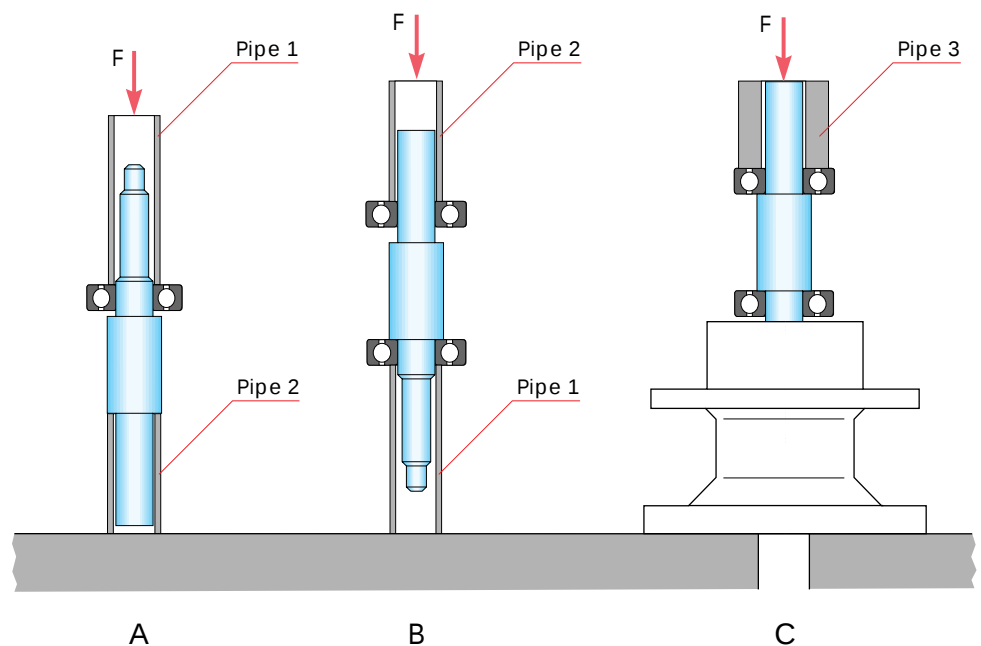

Fig 19-3
- 7 Remove the locking screws (26)** and mount three hexagon screws into the holes. Tighten the screws until the bearings come loose from the housing. Remove the shaft and bearings.
- 8 Check the seal (12)** and the bearings for wear and damage, see pos. d) below.
- 10 Press the new bearing (13)** by its inner ring with a suitable pipe.
- 12 Turn the shaft** according to Fig 19-3.
- 14 Press the bearing (15)** by its inner ring with a suitable pipe. See Fig 19-3.
- 15 Turn the bearing housing** according to Fig 19-3 and oil the outer surfaces of the bearings. Press the shaft into the housing by both the inner and outer ring of the bearing (15) with a suitable pipe.